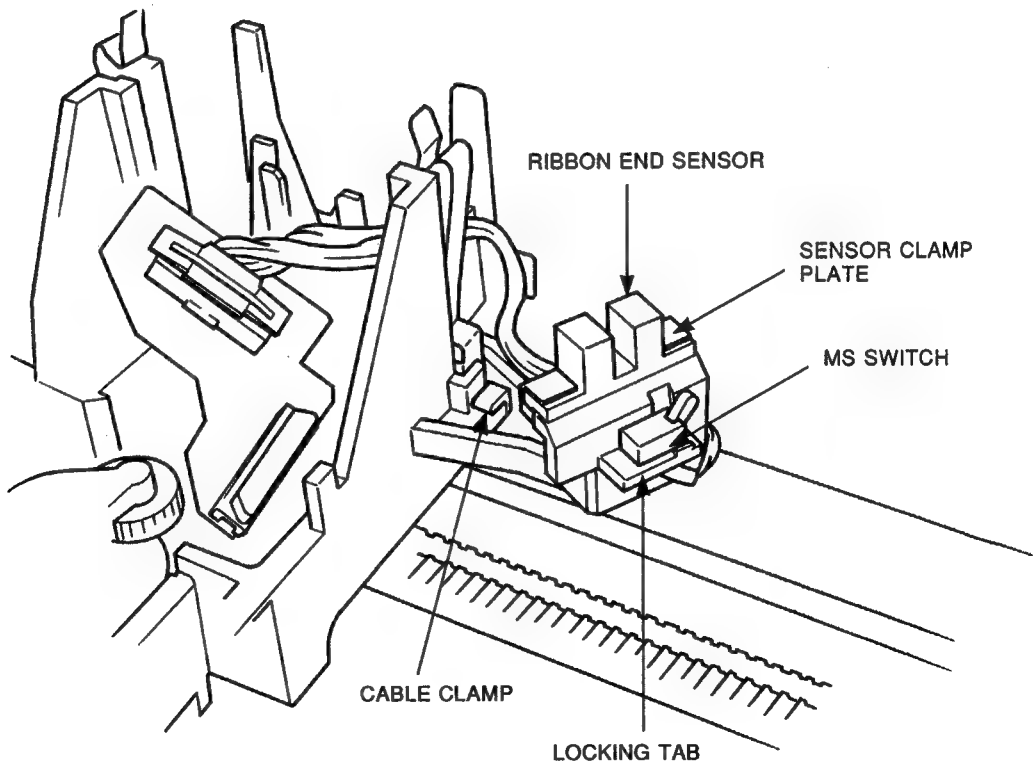

Figure 3-16 Ribbon Sensor Assembly
3. Release the sensor cable from the cable clamp on the carrier (see Figure 3-16).
6. Unlock the locking tab and remove the microswitch by turning it counter-clockwise (see Figure 3-16).